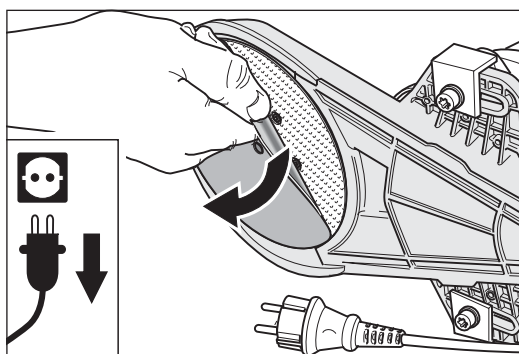

Fig. 14 Remove the Velcro sanding disc from the sanding plate.
- Pull the worn-out Velcro sanding disc off of the sanding plate (fig. 14).